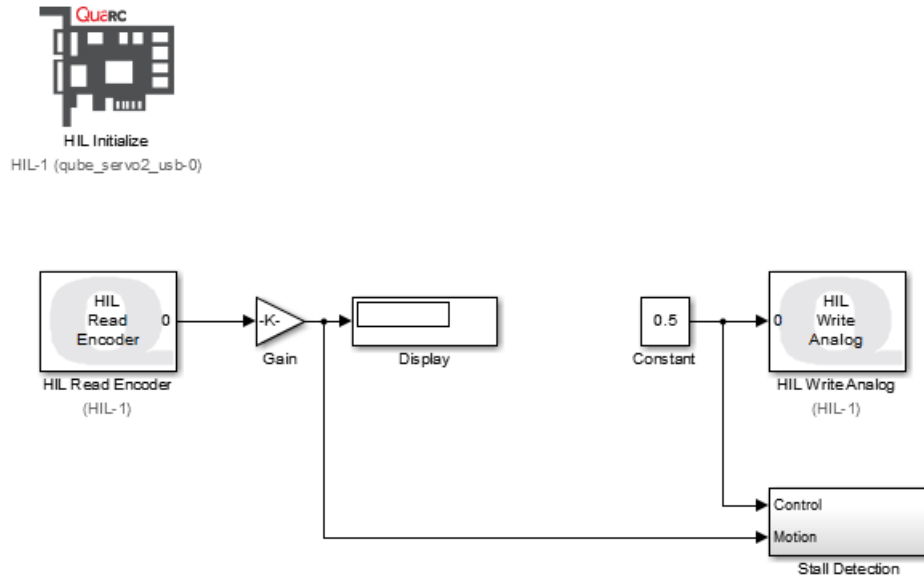

Figure 1.5: Simulink model used with QUARC to drive the DC motor and read angle on QUBE-Servo 2
The objective here is to build a Simulink model using QUARC blocks to drive the DC motor and then measure its corresponding angle, as shown in Figure 1.5.
2. Connect the **HIL Read Encoder** to a **Gain** and **Display** block similar to Figure 1.5 (without the **HIL Write Analog** block. It will added later). Double click in the Simulink model and search for the **Gain** and **Display** blocks. In the Library Browser, you can find the **Display** block from the **Simulink | Sinks** and the **Gain** block from **Simulink | Math Operations**.
2. Add a **Constant** block. Connect the **Constant** and **HIL Write Analog** blocks together, as shown in Figure 1.5.